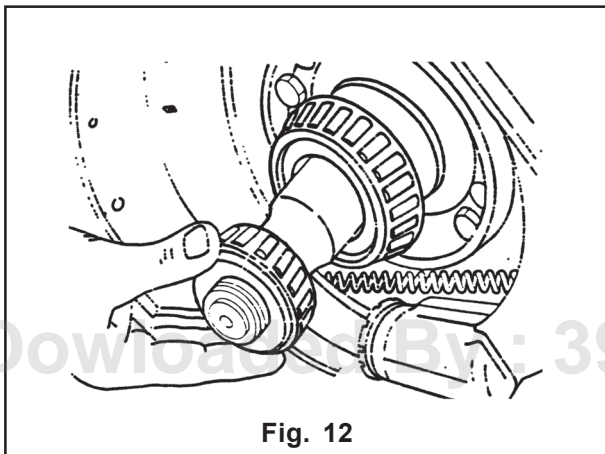

Fig. 12
- \* Check the degree of fit of the new bearing cones on the appropriate axle arm. The cone should be a push fit without tight spots and without perceptible clearance. If there is excessive clearance, even with a new bearing cone fitted, the axle arm should be renewed. (see fig. 12)